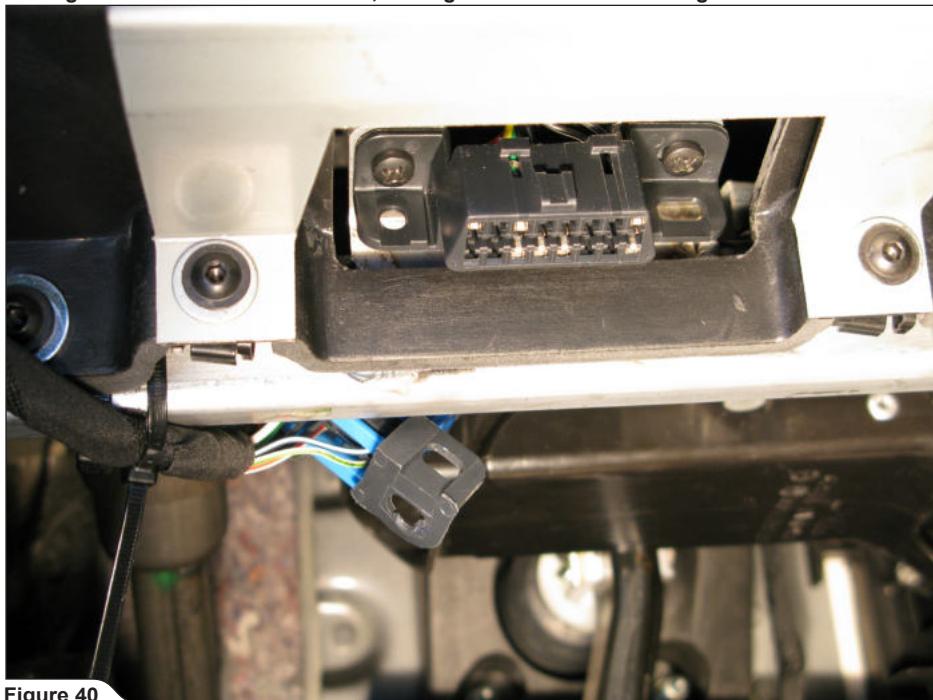

Figure 40
20. For optional Akrapovič delete-R: attach the delete-R's OBD connector onto the chassis and fix the Akrapovič delete-R, wires and original OBD connector, using the plastic tie wraps (Figure 40).